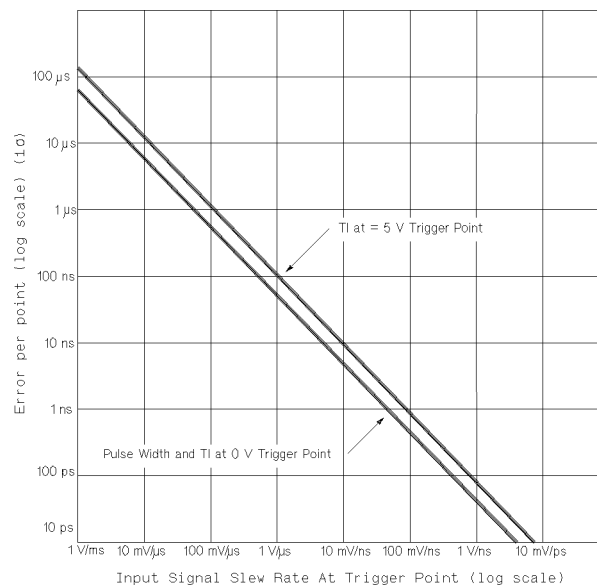

Figure 4-4. Trigger Level Setting Error
5. Trigger Level Setting Error (See Figure 4-4.)